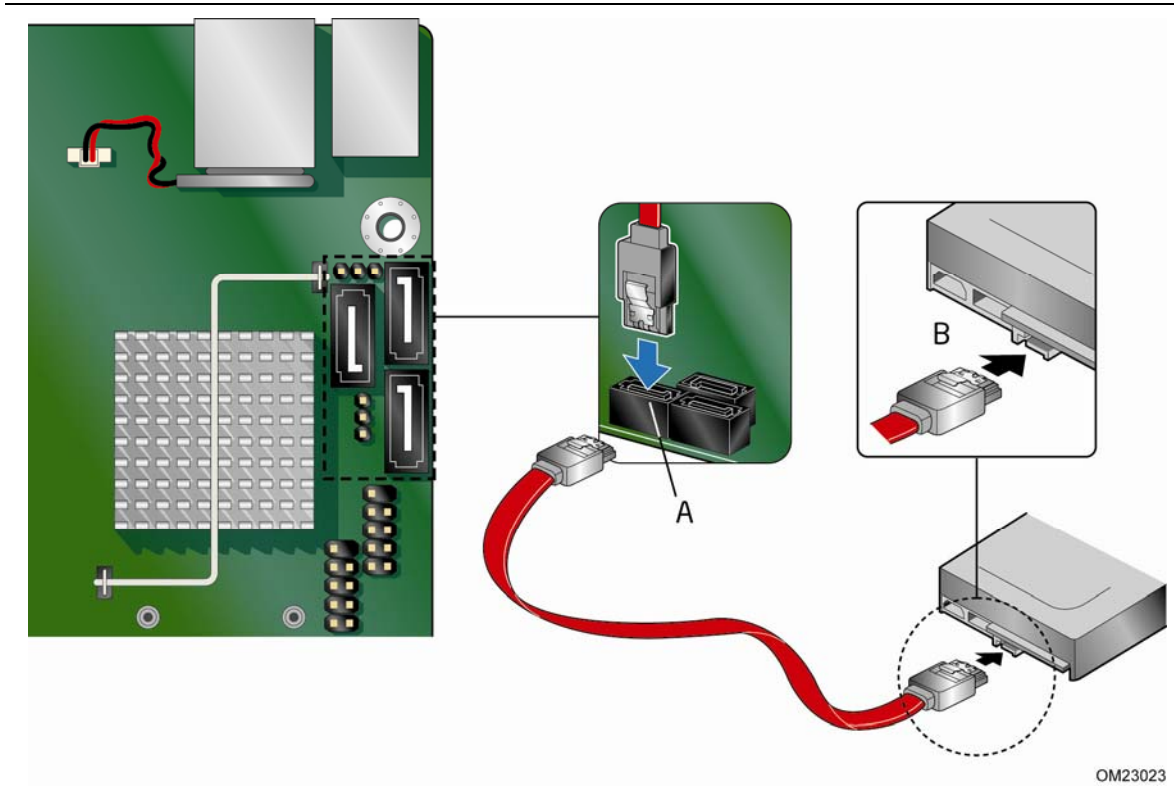

Figure 18. Connecting a Serial ATA Cable
2. Attach one end of the SATA cable to one of the SATA connectors on the board (Figure 18, A) and attach the other end of the cable to the SATA drive (Figure 18, B).